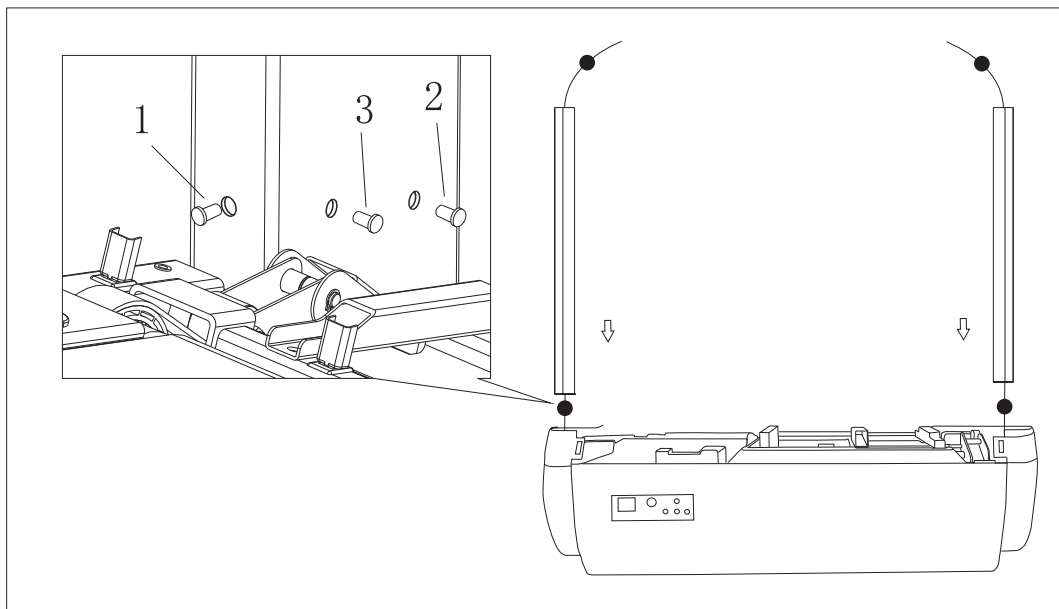

Figure 2
- (5) Fit the upright racks into the left and right sides of the body respectively, screw the six M10*25 hexagonal fillister head screws, M10 spring gasket and flat gasket with 6# hexagonal spanner as per the order listed in below diagram (See Figure 2), and meanwhile reeve the signal cable into the upright post.